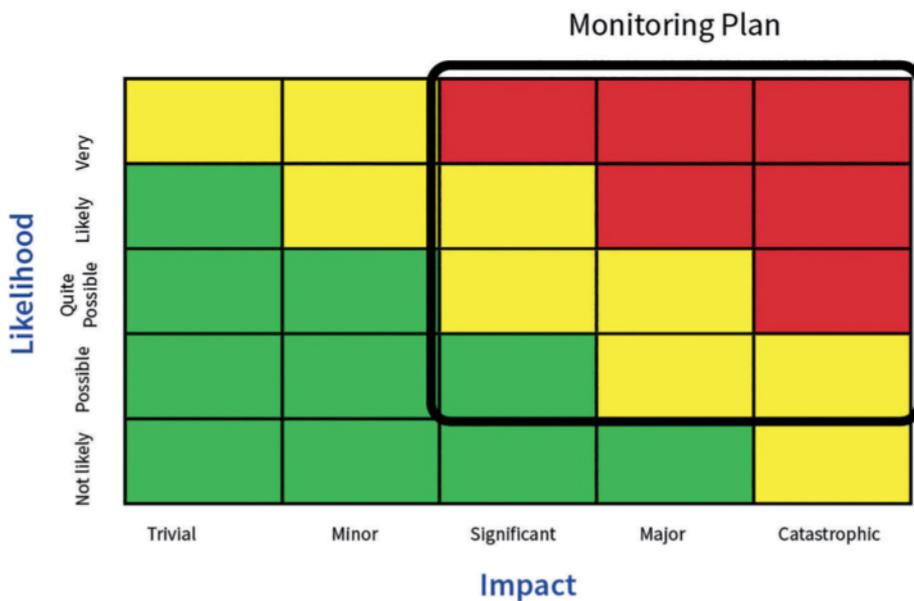

Figure 2: Monitoring plan.
- The risk assessment is based on inputs from the different groups within the facility (fig. 2).